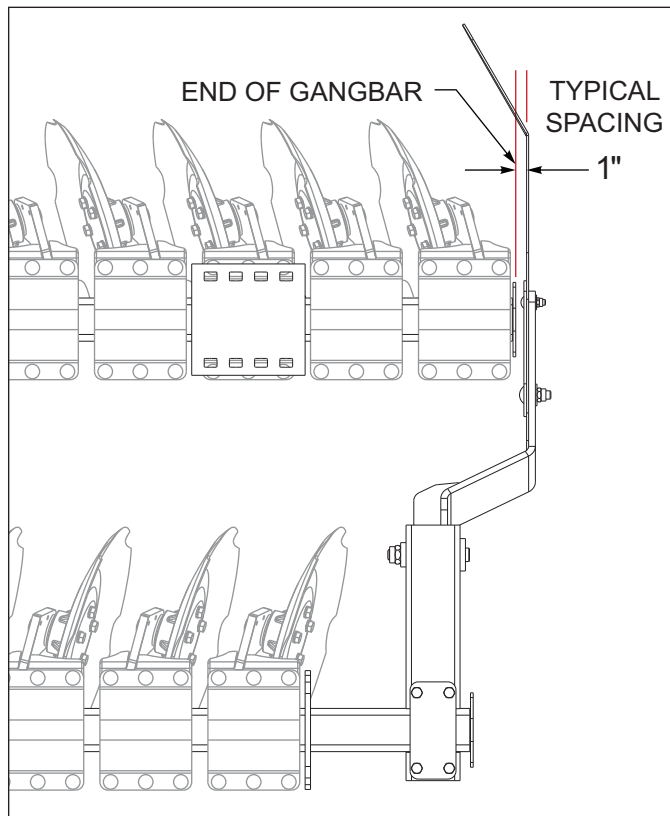

Figure 4-2: Adjusting the Blade Leveler
- If the ground speed will be ten miles per hour or more, gap the Blade Leveler laterally a bit further left of the left end cap of the left rear gang for most working conditions. For most working conditions, it is most effective when positioned approximately 1" to 1-1/2" to the left of the left rear gangbars left side end cap. *See Figure 4-2.*